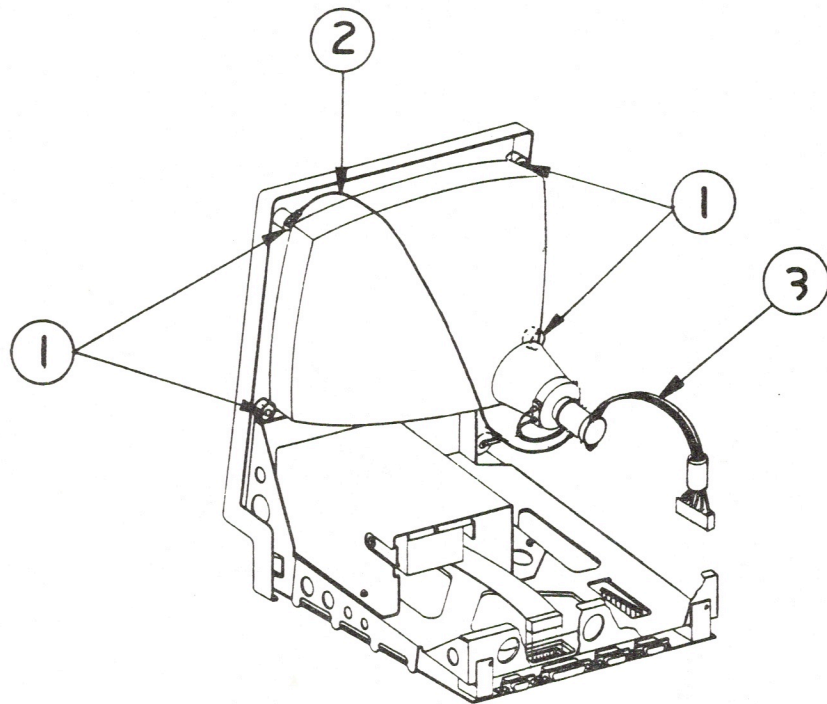

FIGURE 9
3. Place the computer face down on a soft cloth or foam pad. Remove the four screws fastening the CRT (Figure 9, #1) and the ground wire (Figure 9, #2).
4. Gently remove the CRT socket cable (Figure 9, #3) by sliding it straight out from the neck.
1. Set the CRT in the case with the anode facing away from the power/sweep board (see Figure 9).
3. Replace the four CRT screws (Figure 9, #1). Be sure to reinstall the ground wire (Figure 9, #2).